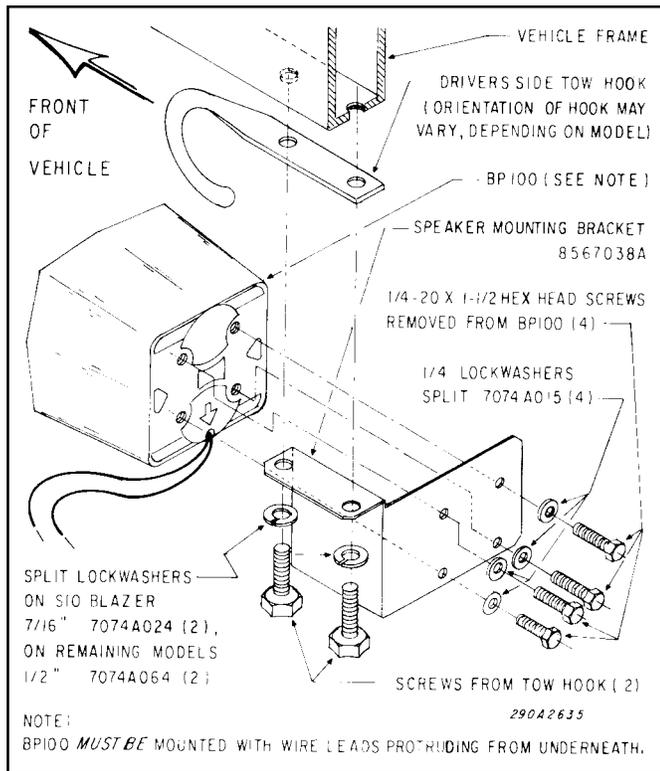

Figure 1.
2. Assemble the speaker mounting bracket to the speaker using the four 1/4" split lockwashers and the previously removed screws as shown in figure 1.
4. Secure the speaker assembly and tow hook to the vehicle frame using the previously removed bolts and appropriate split lockwashers (between the bolt heads and bracket) as shown in figure 1.